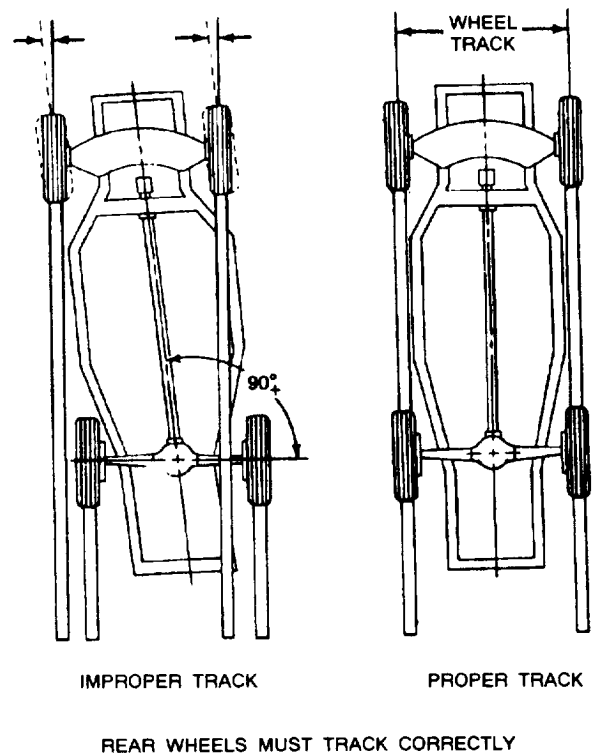

Figure 12-7.—Rear wheels must track correctly.
6. TRACKING. Tracking (fig. 12-7) is the ability of the vehicle to maintain a right angle between the center line of the vehicle and both the front and rear axles or spindles. (The rear wheels should follow the front wheels.) If this angle is off, the vehicle will appear to be going sideways down a straight road. This problem could be caused by shifted or broken leaf springs or a bent or broken rear axle mount, bent frame, bent steering linkage, or misadjusted front-end alignment.